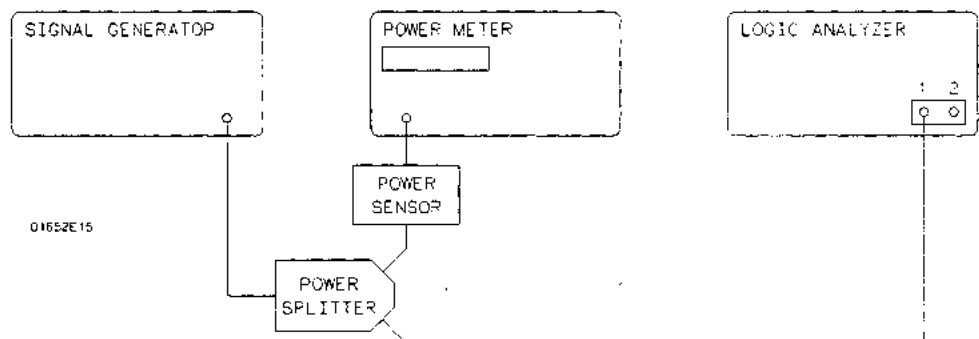

Figure 3-54. Setup for Bandwidth Test
1. With the N cable, connect the signal generator to the power splitter input. Connect the power sensor to one output of the power splitter as in figure 3-54.